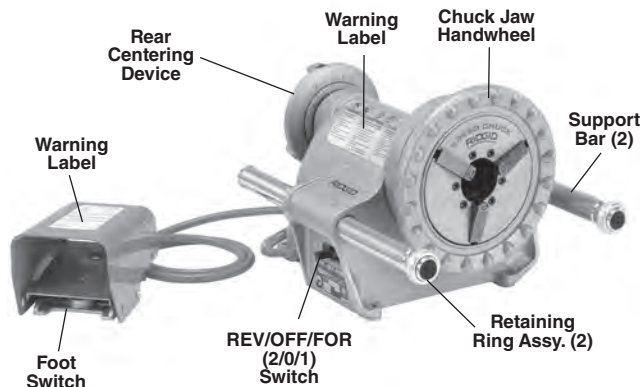

Figure 1 – Model 300 Power Drive
- Presence and readability of warning labels (*Figures 1, 2 & 7*).